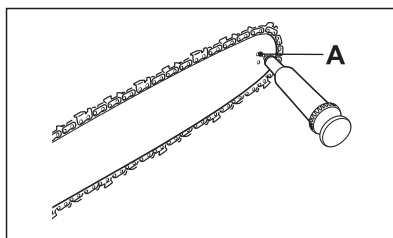

Fig. 13
1. Clean the sprocket wheel (5).
2. Using a disposable lube gun, insert the needle nose into the lubrication hole (Fig. 13, A) and inject grease until it appears at the outside edge of the sprocket (5) (Fig. 13).